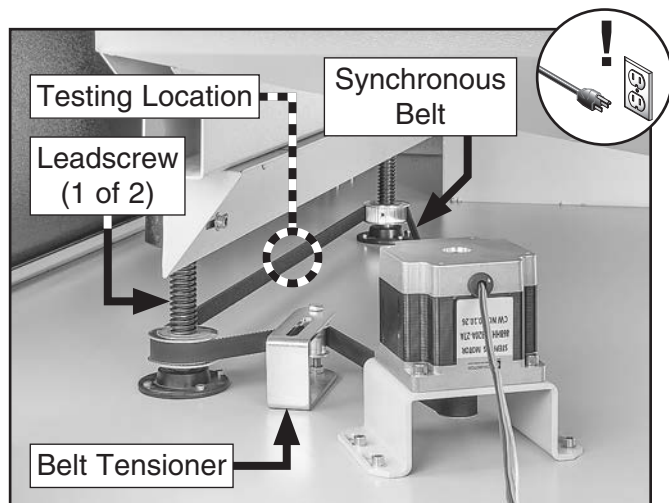

Figure 78. Left Z-axis belt deflection testing location.
5. Test for approximately 8mm of deflection on top side of Z-axis belt at its center between table leadscrews (see **Figure 78**).